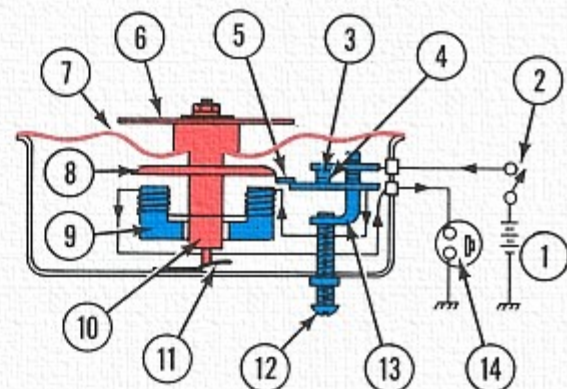

Fig. 99 Horn
A cross sectional view of a typical motorcycle horn is shown in Fig. 99. When the main switch (2) is closed, and the horn button (14) is depressed, current flows from the battery (1), through contact points (3) & (4), and through an electromagnet (9). The electromagnet attracts an iron ring (8) on the diaphragm shaft (10), and the diaphragm (7) is pulled inward. When this occurs, the iron ring strikes an insulator (5) on the movable contact point (4), separating it from the fixed contact point (3), and the circuit is broken. A return spring (11) then moves the diaphragm shaft and diaphragm forward. This releases the movable contact point, the contact points close, and the cycle repeats itself as long as the horn button is depressed.